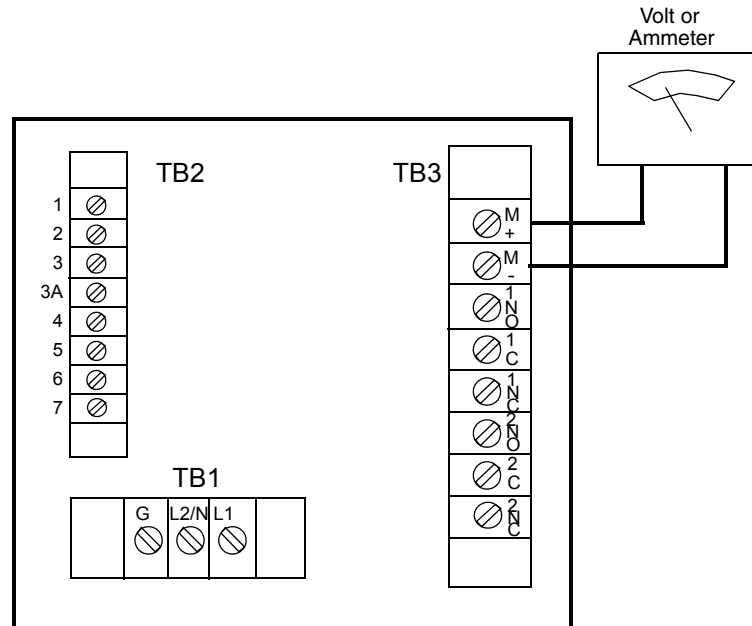

Figure 22. Output Terminals and Volt/Ammeter (Plastic Version Shown)
1. Connect an ammeter/voltmeter to the analog output terminals. See Figure 22 and “Wiring of Plastic Enclosure” on page 27 or “Wiring of Metal Enclosure” on page 29.